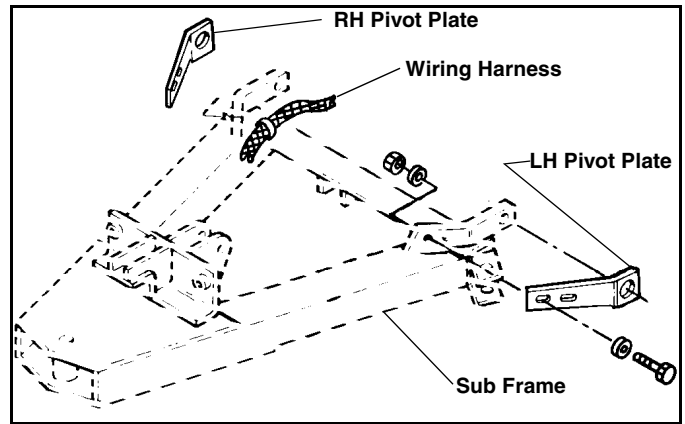

Figure 1
3. Bolt Pivot Plate (#17) RH to right side Mounting Lug on Main Frame. Use (2) 3/8" x 1-3/4" Cap Screw (#22), with (2) 3/8" Washers (#25) on each Cap Screw and Nylock Nuts (#24) provided. (See Figure 1)
4. Bolt Pivot Plate (#18) LH to left side Mounting Lug on Main Frame. Use (2) 3/8" x 1-3/4" Cap Screw (#22), with (2) 3/8" Washers (#25) on each Cap Screw and Nylock Nuts (#24) provided. (See Figure 1)
*NOTE: Flat side of Pivot Plate must be up. Do not tighten nuts at this time. (See Figure 1)
Location of Wiring Harness Clip is on Rear Bolt. (See Figure 1)*